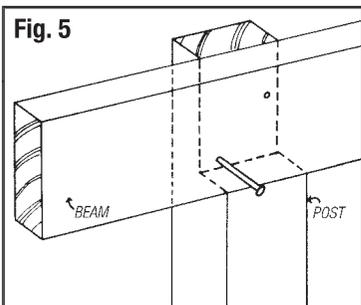

Fig. 5
2. Use Joist Hangers to fix directly to the existing fascia board (Fig. 4). Beams should be bolted to the inside of the posts (Fig. 5). Rafters will